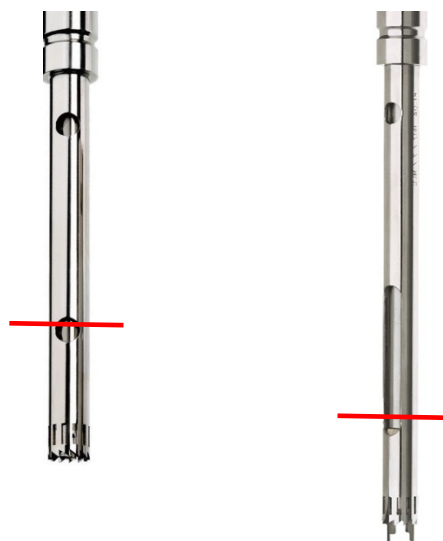

Figure 38: Minimum liquid level (red line) for aggregate 6.9012.000 (left) and 6.9012.010 (right).
- Only run the Polytron with the connected aggregate immersed in a liquid (see Figure 38). Otherwise, the Polytron can be damaged. Running the drive without a connected aggregate is possible. Never put your finger into the drive when it is running!